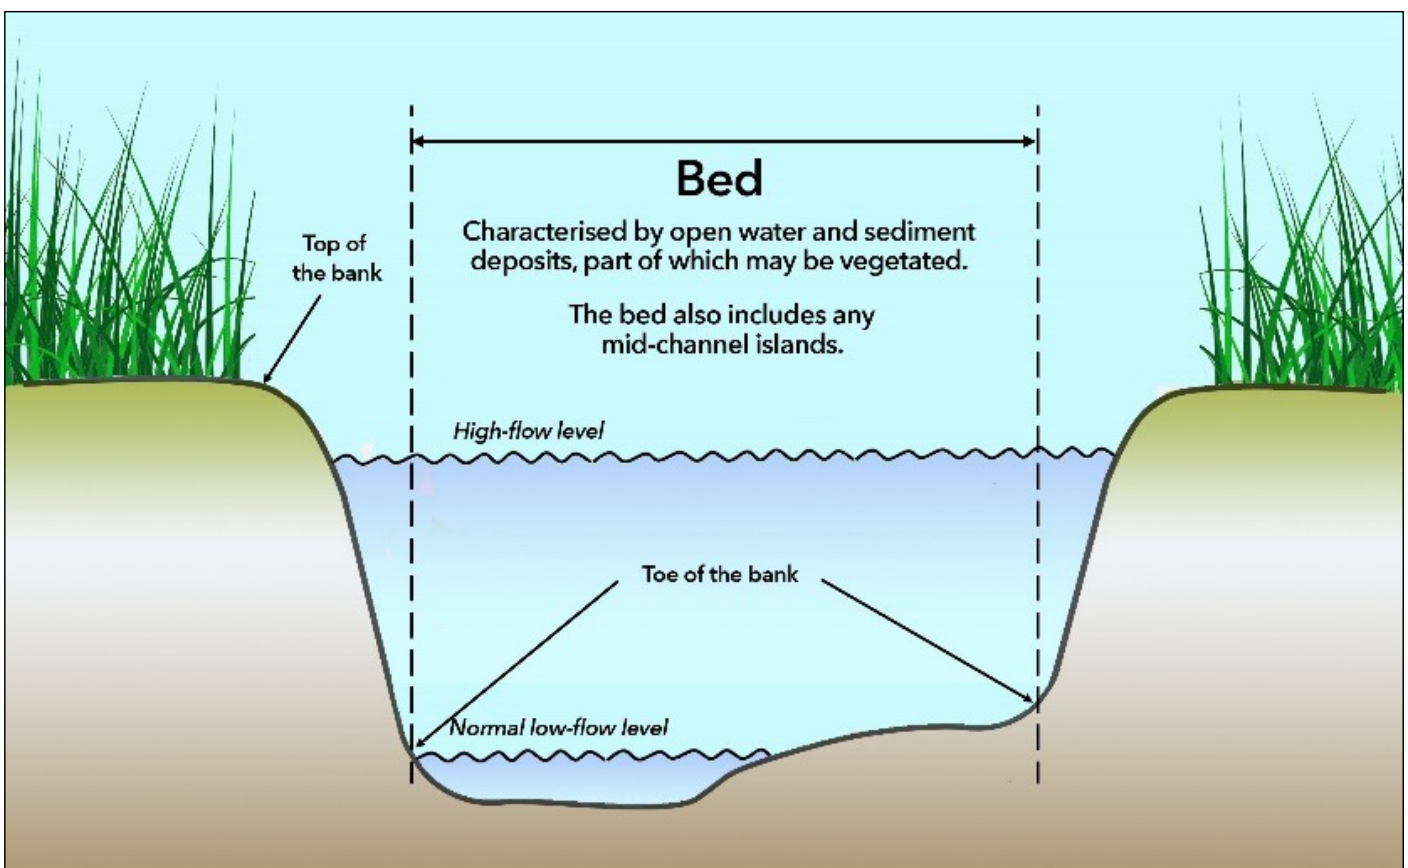

Figure 14.1. Watercourse/ditch features.
- widen the channel or heighten the banks (Figure 14.1)